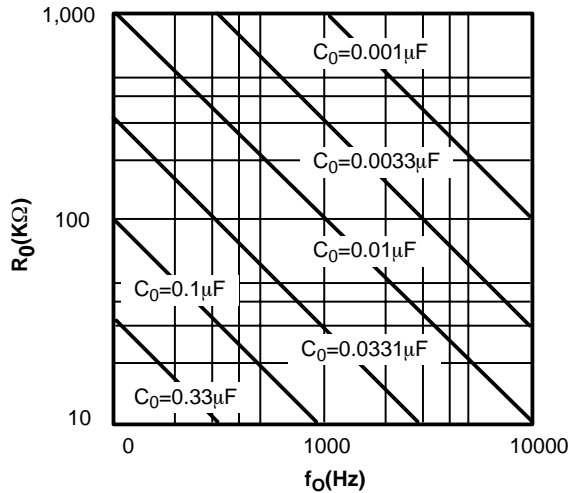

Figure 7. VCO Frequency vs. Timing Capacitor
- c) Calculate value of C_0 from design equation (1) or from Figure 7:
- Calculate value of C_0 from design equation (1) or from *Figure 7* $f_S = f_0$: